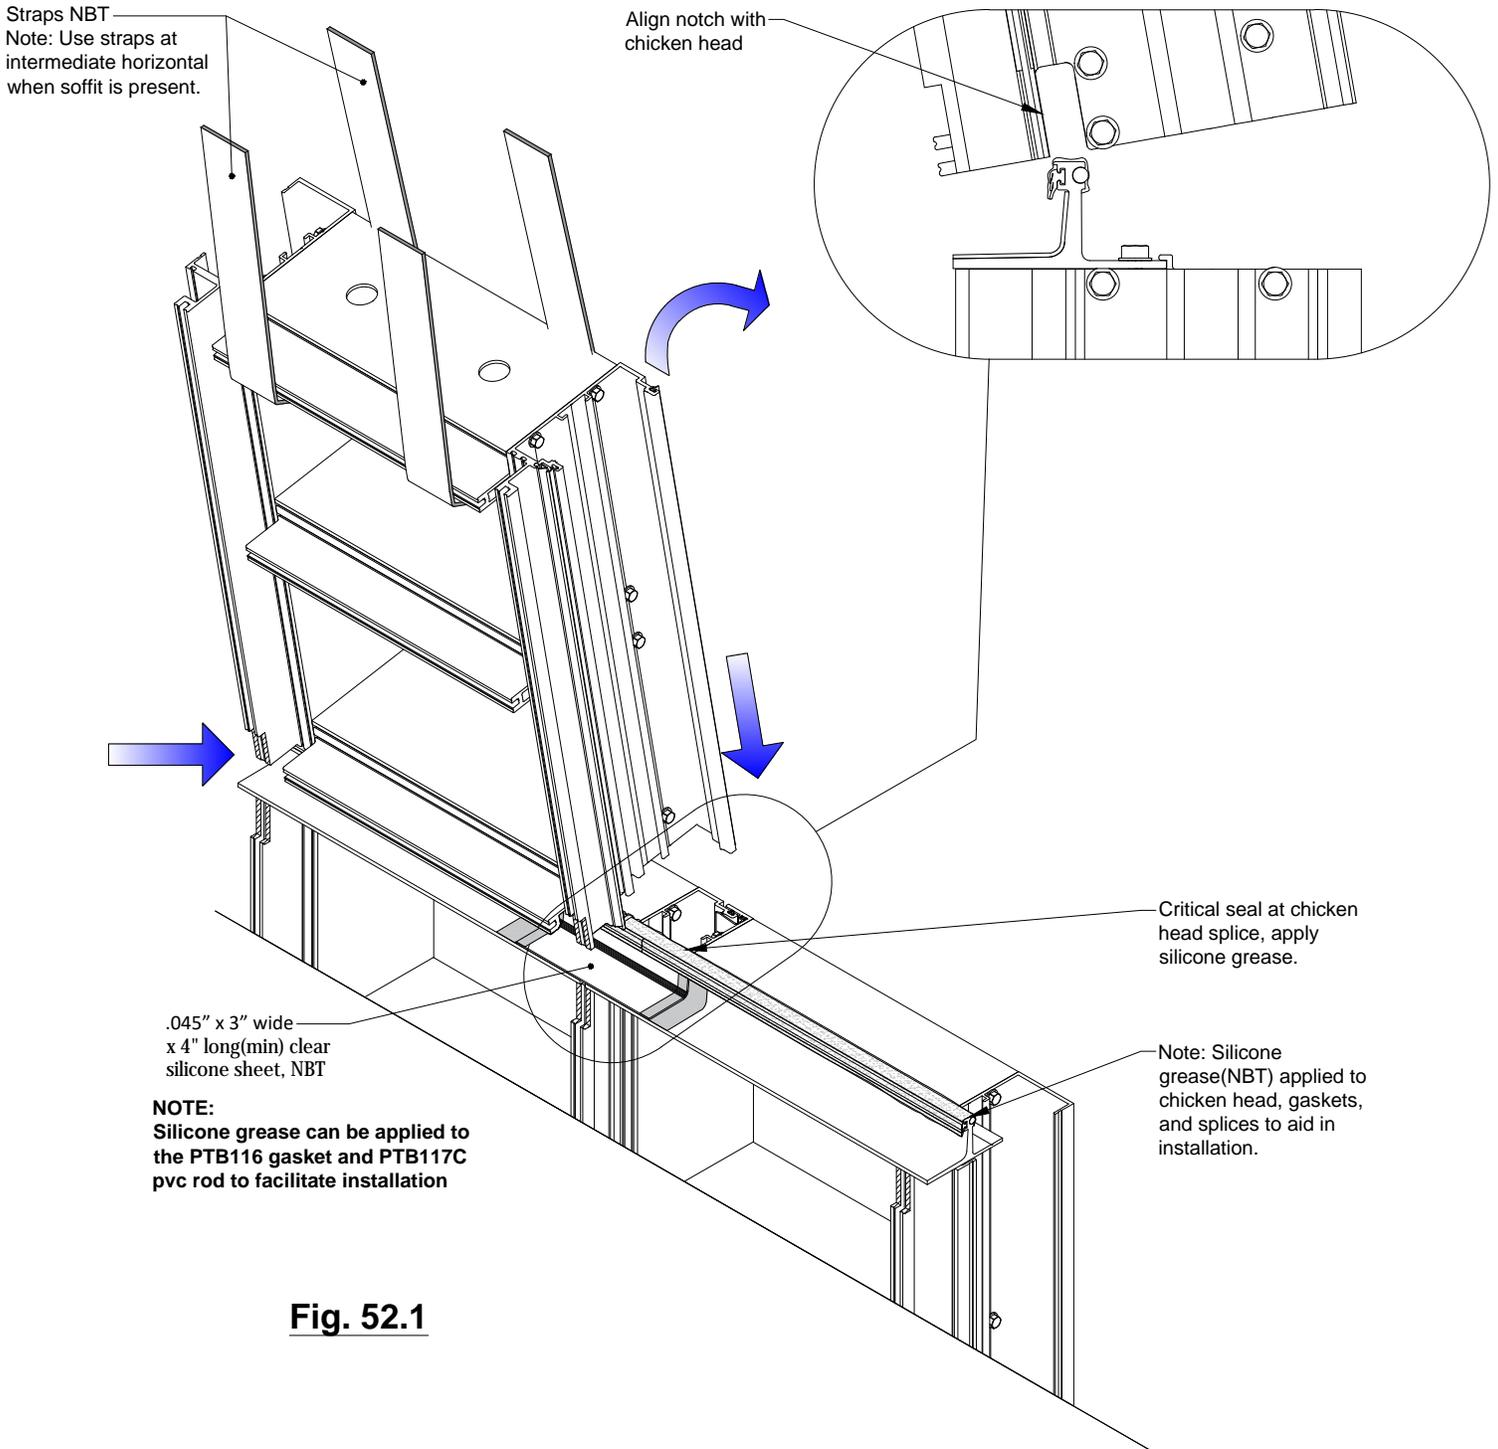

Fig. 52.1
- viii. Set the next row of frame units above the first row from the floor above, aligning mullion notch over the chicken head. Set the frame expansion joint to the correct height before anchoring the upper frame unit per step ii. above. See Fig. 52.1.